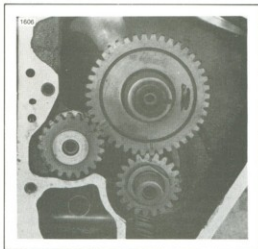

Figure 3-35. Timing Gears with Marks Aligned
(26) has noticeable end play. Breather, cam and pinion gears contain timing marks which must be aligned or matched as shown in Figure 3-35. Rotate gear train and note if it revolves freely. A bind indicates gears are meshed too tightly.